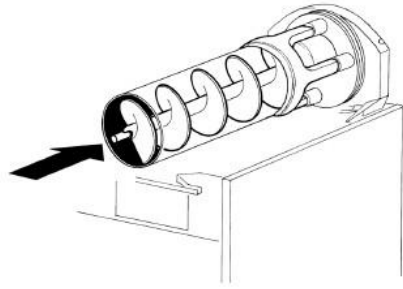
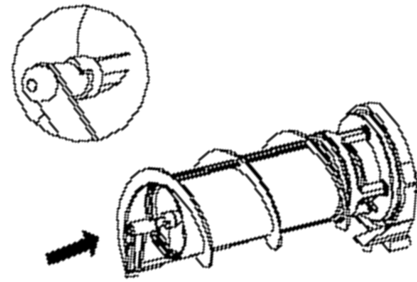

figure 10
figure 9
4.Insert the auger into the evaporator taking care to accompany it to the end so in order to prevent it from hitting against the rear wall (fig.10).Install the outer spiral by sliding it over the evaporator until its front notch engages with the exposed end of the auger shaft(fig.9)